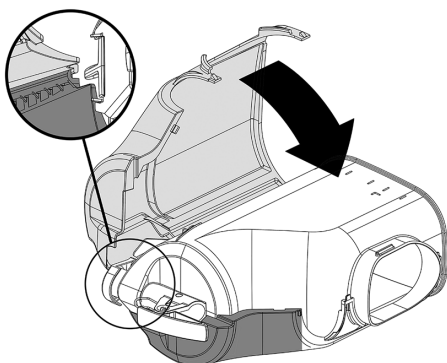
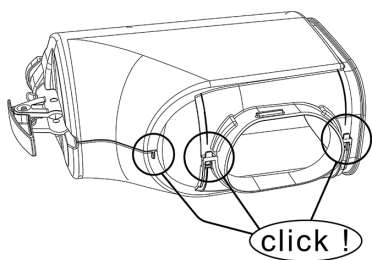

figure 4
figure 5
**2** Put the left-hand part of the recover into position and make sure that it fits into the illustrated groove. Click the two parts together. (see figure 4)(see figure 5).